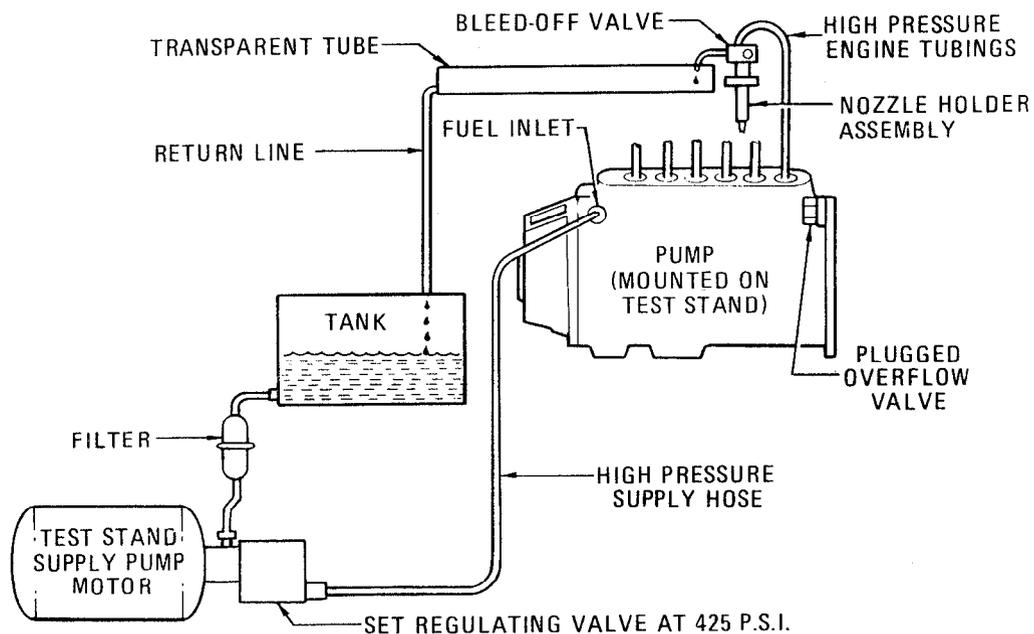

Fig. 113 — Pressure Timing Set-up
5. Assemble the bleed-off valves (part of pressure timing set-up), Bacharach 67-2824 or equivalent to the holder assemblies as shown in fig. 113.
8. Connect the pressure timing system consisting of an oil tank with clean test oil, filter, test stand supply pump, high pressure hose and transparent plastic hoses as illustrated in fig. 113.
12. Secure the control rod (item 75) at full load rack extension of 29.8 mm (1.175 in.).
18. Install a thicker spacer (item 22) to the tappet to decrease the plunger lift-to-port closing or a thinner spacer to increase it.